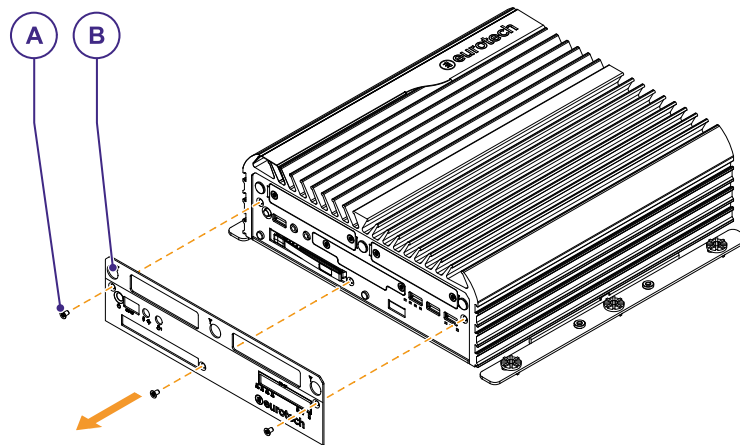

Fig. 5 - Remove the Front Panel **B**
1. Remove the three Torx screws **A** (M3, L = 8 mm) and remove the Front Panel **B** (Fig. 5 below). The Anti-tamper is triggered: the event is timestamped and recorded by the RTC. For more information, refer to: "Anti-Tamper Function" on the previous page